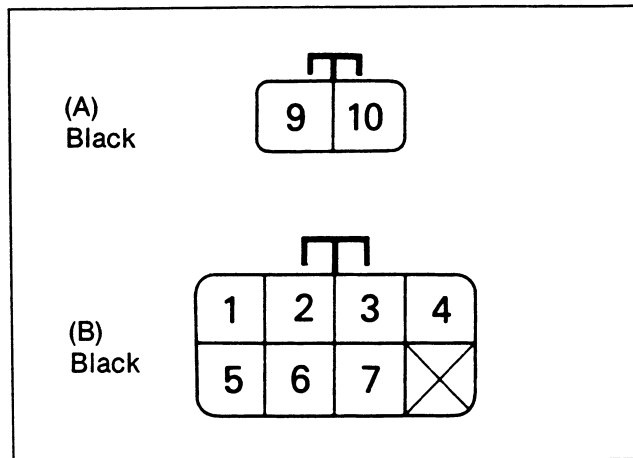

Figure 14. Inhibitor Switch Connector
3. Disconnect the inhibitor switch (4) harness connectors.
4. Use a circuit tester to check the inhibitor switch continuity between the following terminals (figure 14).